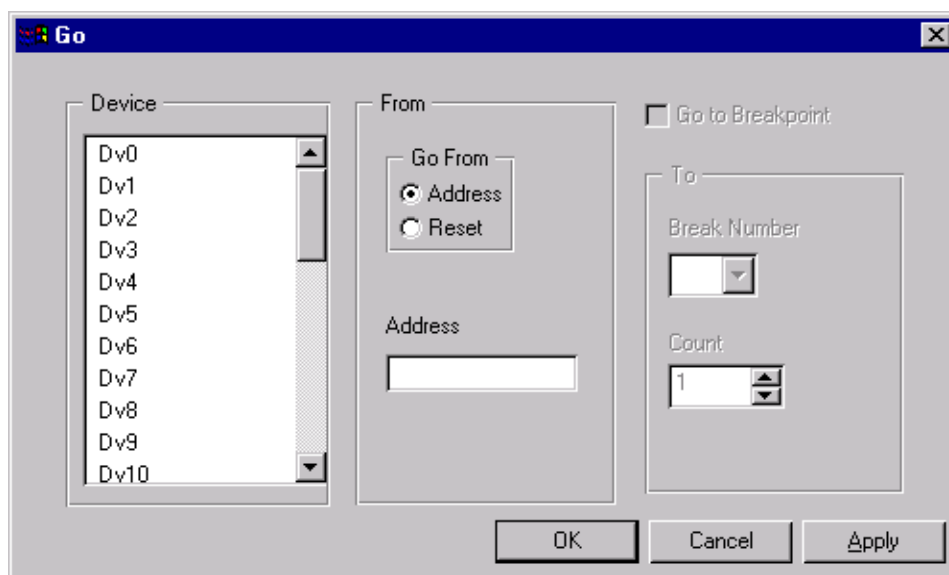

Figure 2-9. Executing Instructions with Go
1. From the **Execute** menu choose **Go**. You will see the dialog box in Figure 2-9